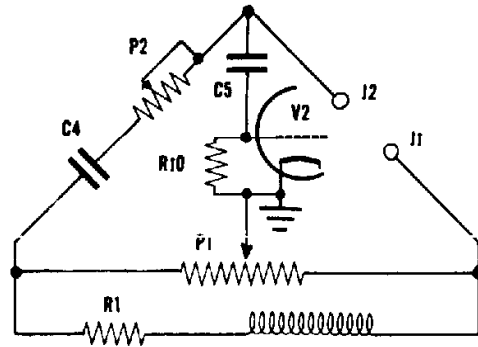
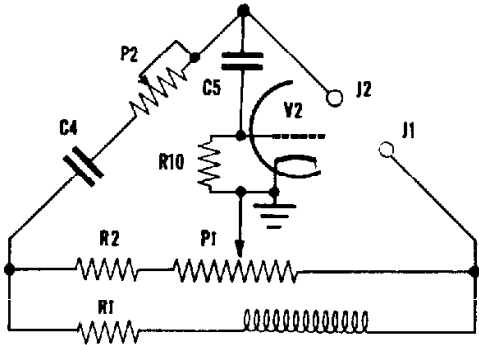

Fig. 2
Fig. 3
- Fig. 2. Bridge circuit for ".1mfd - 50mfd" range. P2 is required to balance the internal series resistance frequently present in electrolytic capacitors and is calibrated in % power factor.
- Fig. 3. Bridge circuit for "50mfd - 5000mfd" EXPanded range. R2 expands capacitance measurement range as compared to circuit of Fig. 2.